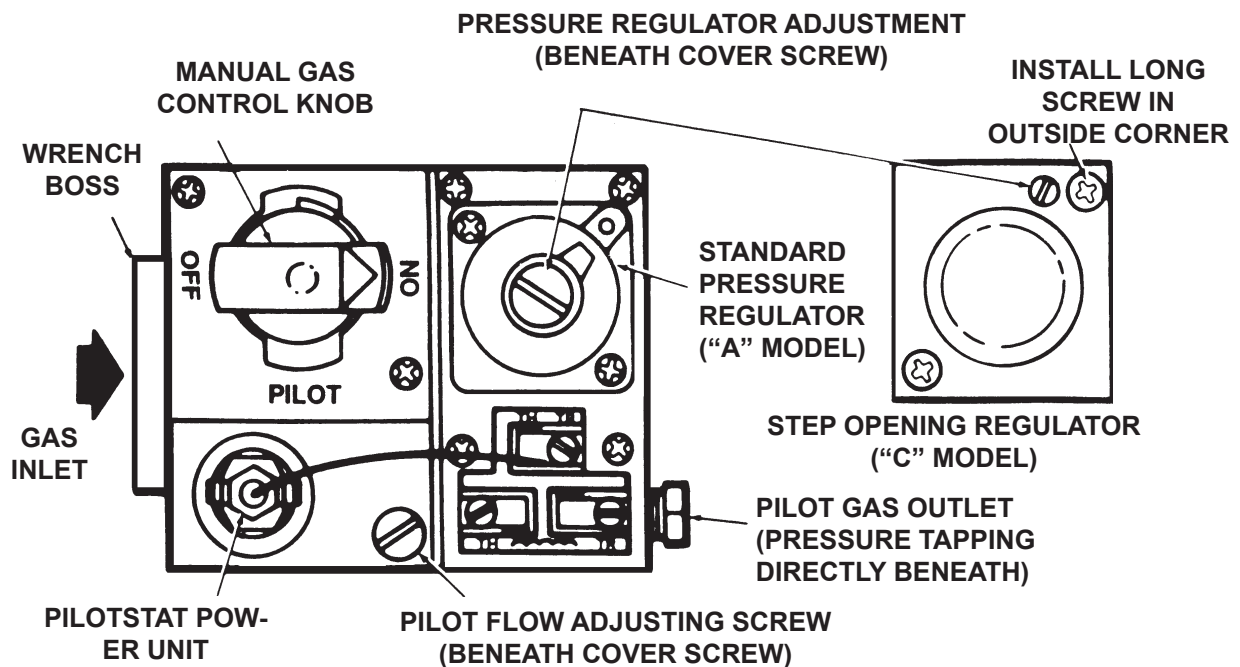

Figure 12. Top View of Standard Capacity Gas Control
- Remove pilot adjustment cover screw. Refer to Figure 12.